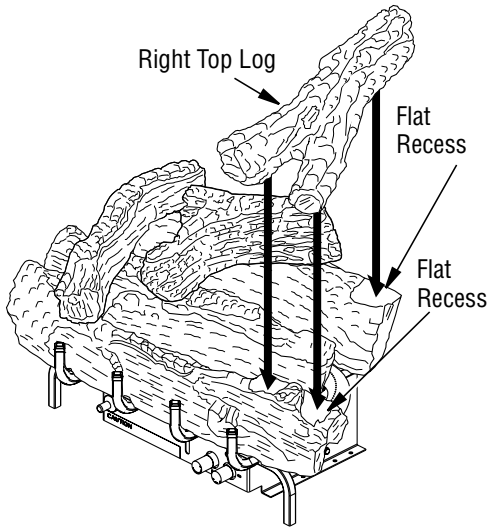

Figure 26 - Installing Right Top Log for 24" and 30" Log Set
6. **For 24" and 30" models:** Place the right top log as shown in **Figure 26, Page 15**. This log will fit on the matching flat recess on the front, middle, and rear logs.